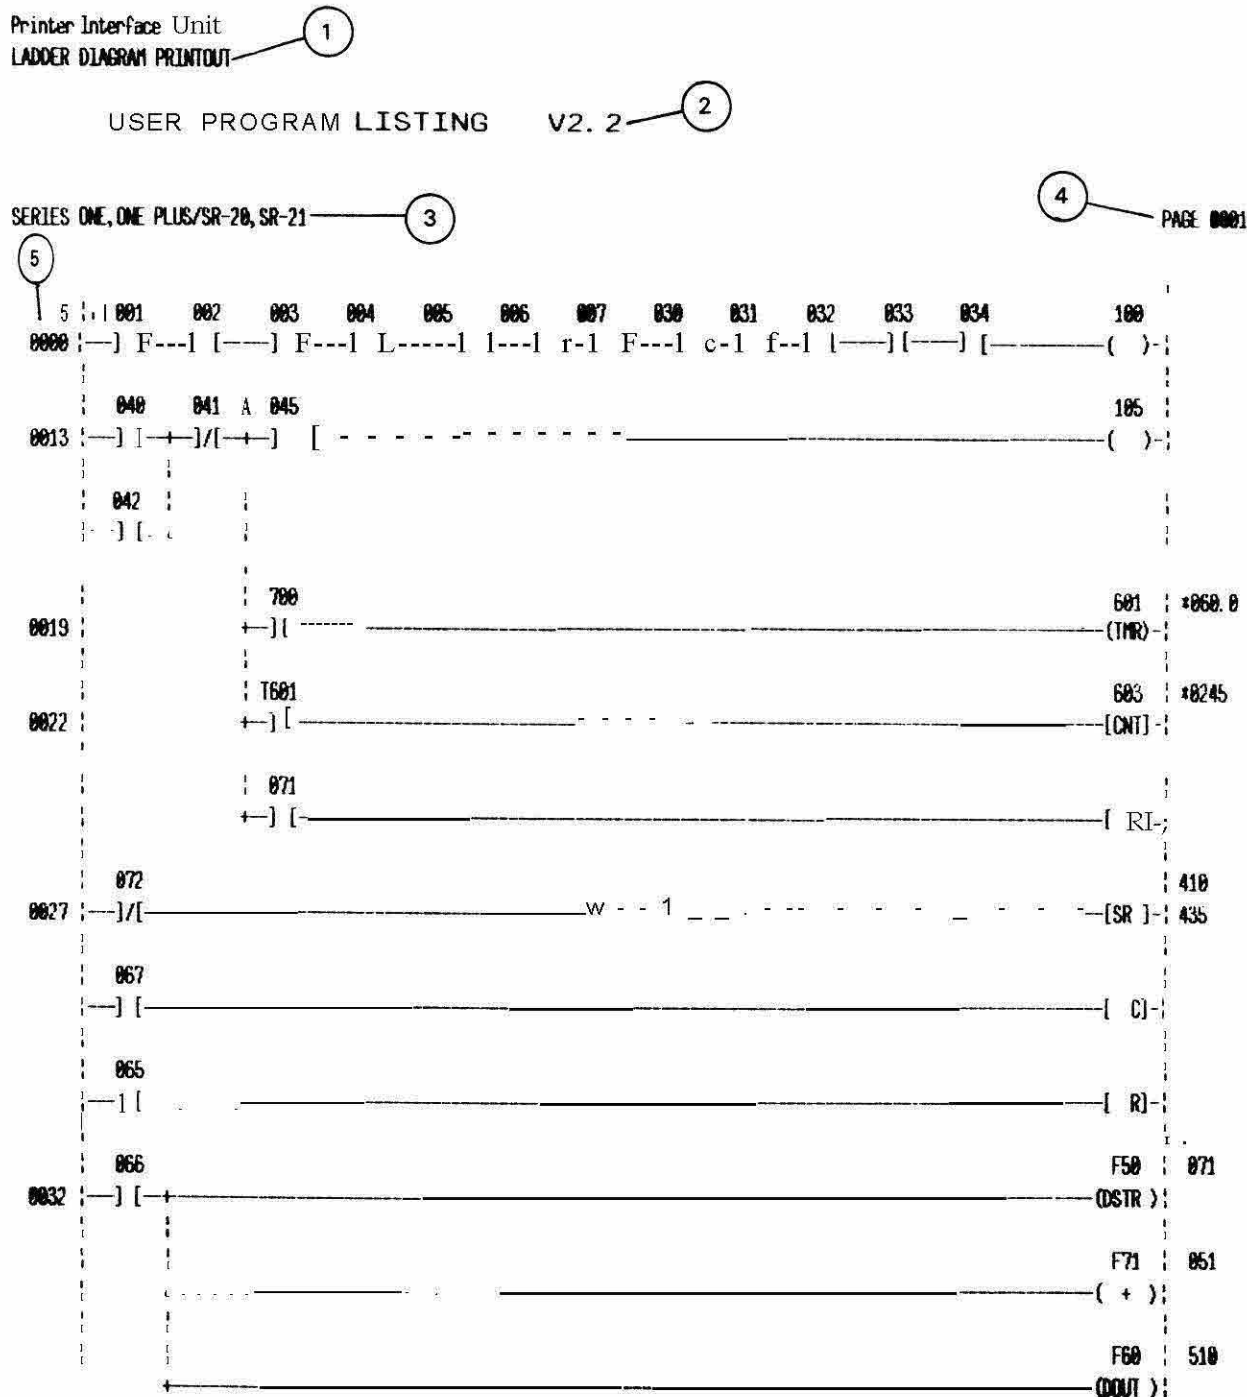

Figure 4-6. Sample Ladder Diagram Printout
Several items appearing on the printouts in figures 4-6 and 4-7 are explained for clarification. The ladder diagram printout in figure 4-6 has a circled number (1-5) next to each annotation, which corresponds to the number preceding the explanation of each annotation. The circled number 6 appears before an annotation on the Boolean printout in figure 4-7. The circled numbers (1-6) are for discussion purposes only and do not normally appear on a printout.
5. Refers to ladder diagram printout only. This **4-digit** decimal number is the user program memory address at the start of each rung of logic. The **first** element in the rung is stored **at** that address. In the example in figure 4-6, the memory address of the start of the first rung is 0000. The first element in that rung is a normally open contact referenced as **001** (reference number is printed directly above the contact). The memory address at the start of the second rung is 0013, the first element in this rung is a normally open contact referenced as 040.